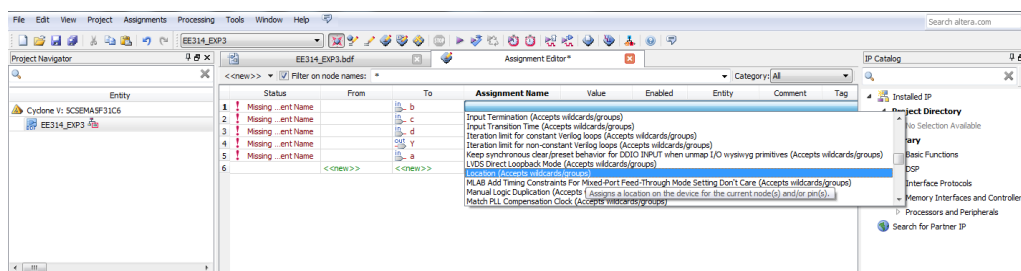

Fig. 13: Assignment name selection window
G.4) Now open the drop down menu under **Assignment Name** column and select **Location(Accepts wildcards/group)** as shown in Fig. 13.